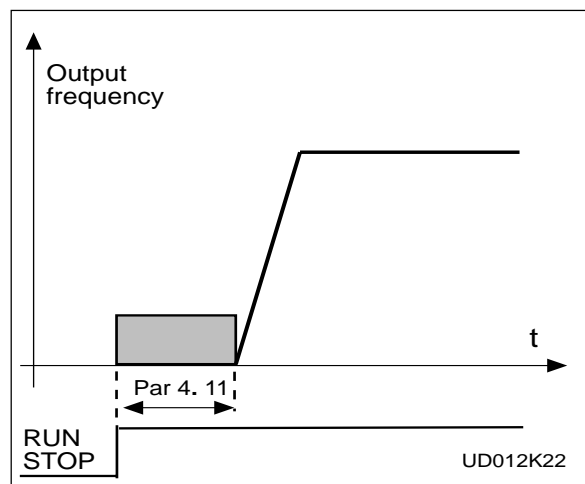

Figure 2.5-25 DC-braking time at start.
- >0 The DC-brake is activated when the start command is given and this parameter defines the time before the brake is released. After the brake is released the output frequency increases according to the set start function parameter 4. 6 and acceleration parameters (1. 3, 4. 1 or 4. 2, 4. 3), see Figure 2.5-25.